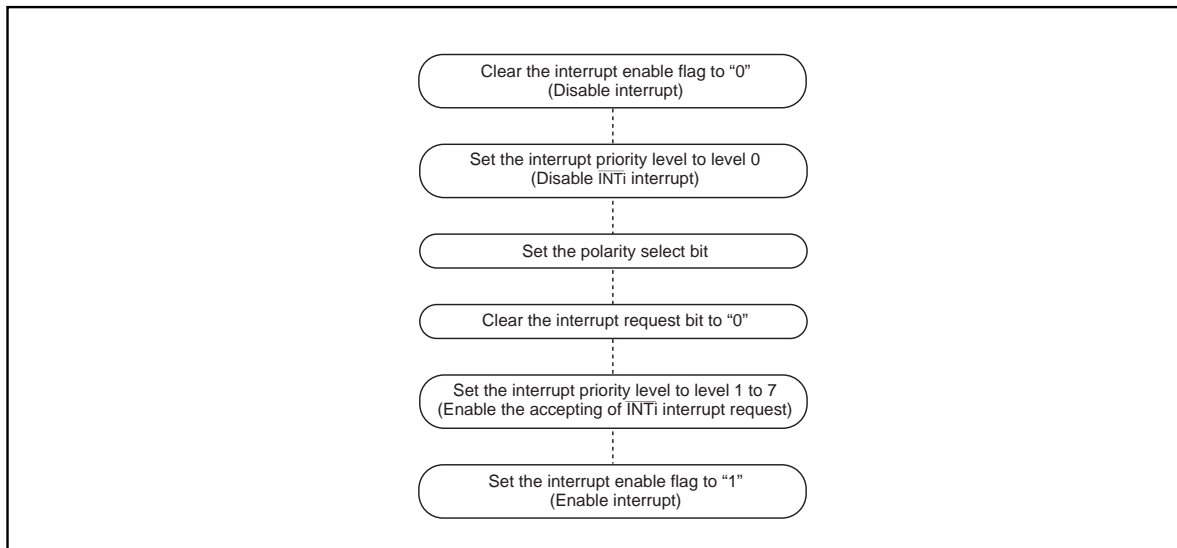

Figure 1.13.12. Switching condition of INT interrupt request
- When the polarity of the  $\overline{\text{INT}}_0$  to  $\overline{\text{INT}}_2$  pins is changed, the interrupt request bit is sometimes set to "1". After changing the polarity, set the interrupt request bit to "0". Figure 1.13.12 shows the procedure for changing the  $\overline{\text{INT}}$  interrupt generate factor.